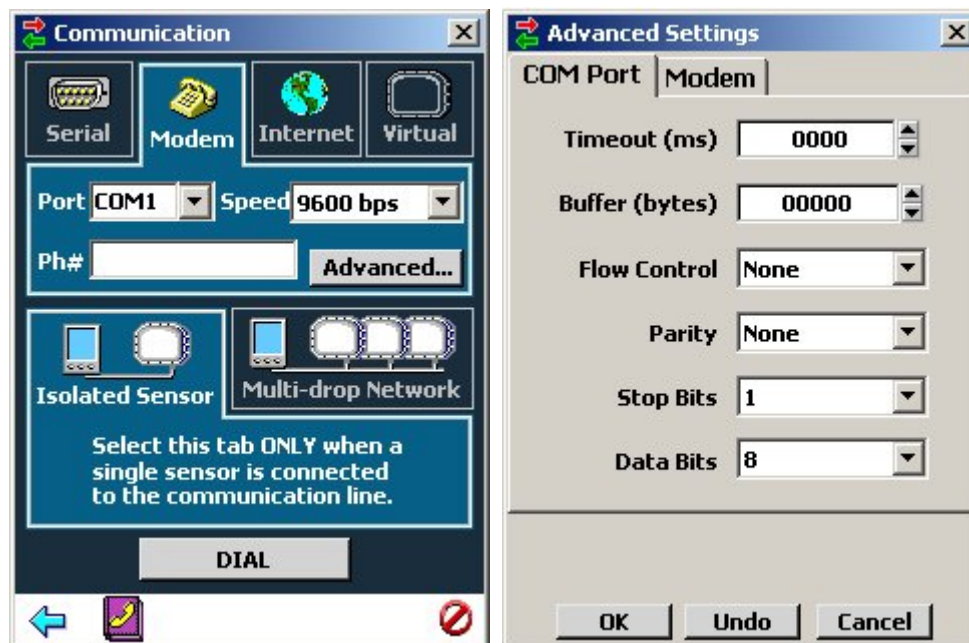

Figure 16 & 17 – Modem Connection and Advanced Settings
2. Click on the **Modem** tab and the modem setting options will appear (see Figure 16).